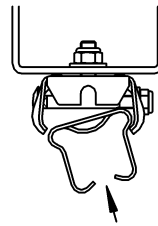

Figure 2
Guide the FABA™ climbing protection rail or ladder into the clamps (figures 2 and 3) and tighten the screws. See page 1 for the torque for M10.
- Fitting of the rails is shown in figures 2 and 3.